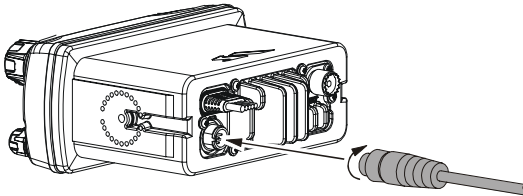

Figure 3
1. Connect the Routing Cable to the one of the Remote Mic six pin connectors on the rear panel, then tighten the Cable Nut (See Figure 3).